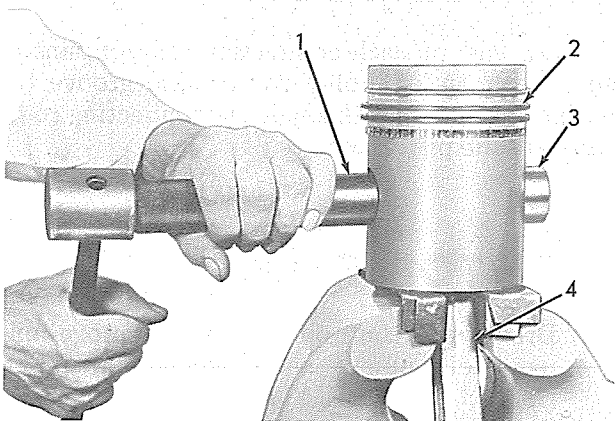

Fig. 2 — Removing Piston Pin From Piston (T-27631)
3. Using a piston pin remover and installer tool, Fig. 2, drive the piston pin from the piston. The specified clearance between a new piston and pin is .0001" - .0003" tight on Type I pistons and .0001" - .0005" loose on Type II.